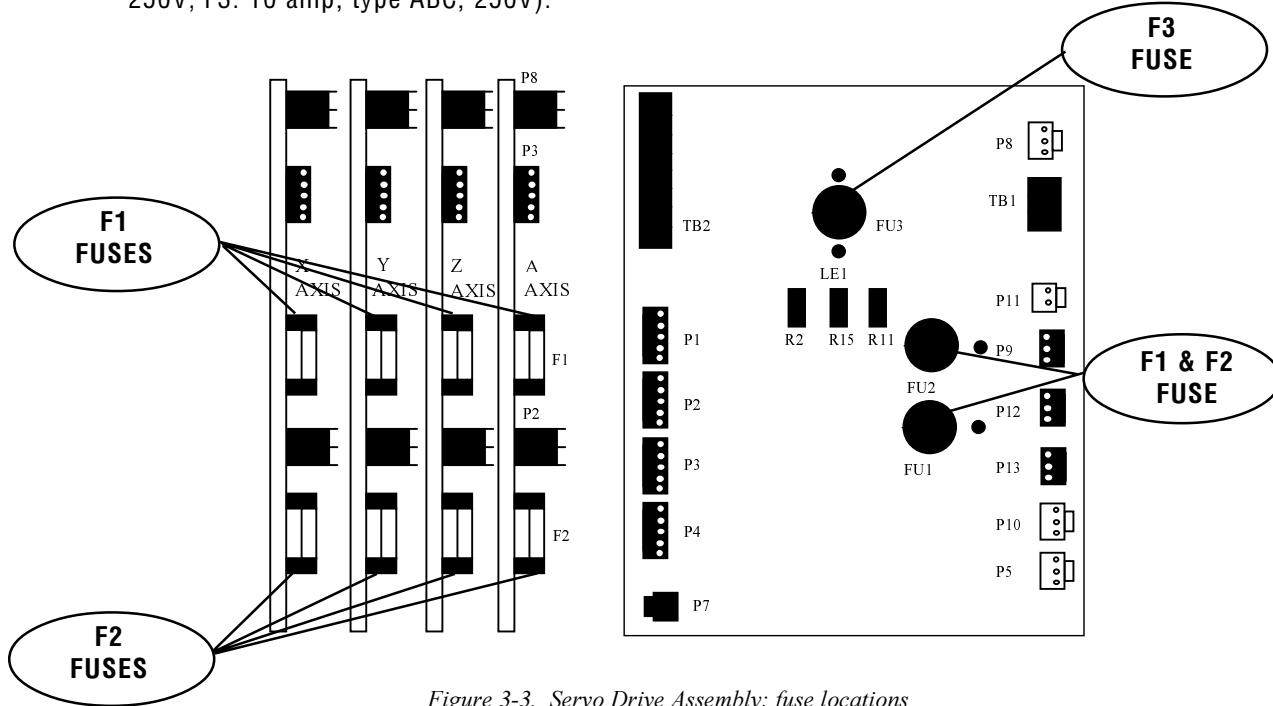

Figure 3-3. Servo Drive Assembly; fuse locations
3. On the SERVO DRIVE ASSEMBLY, there are three fuses on the SDIST panel, and three individual fuses on each of the SERVO DRIVE boards (See Fig. 3-3; the F3 fuses are not shown).